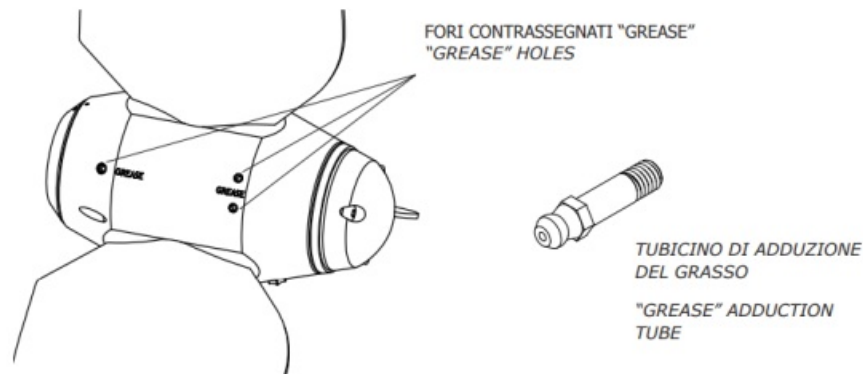

fig. 3
a. The propeller is delivered filled with fluid grease. On average, once a year it is recommended to top up the propeller body with fluid grease. Proceed as follows, referring to figure 3:
- Fill the propeller body completely with fluid grease through the designated holes marked "grease" (see fig. 3).